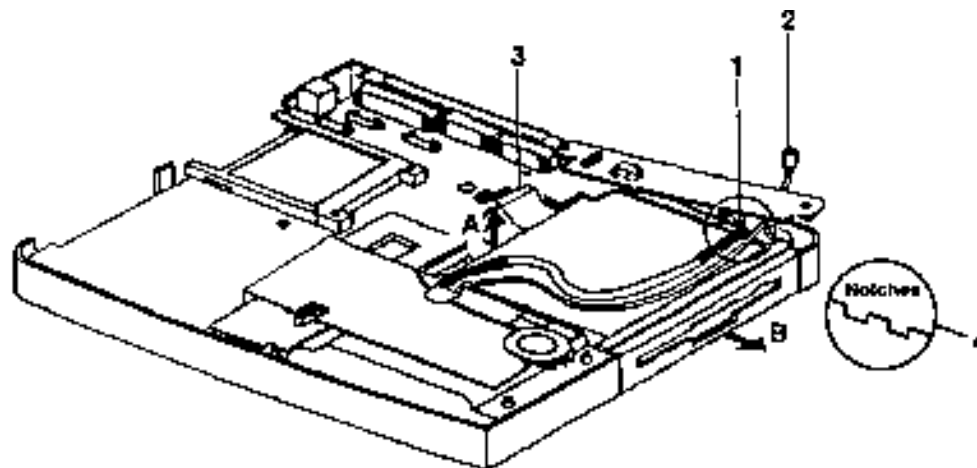

FIGURE 7-9. FLOPPY DISK DRIVE DISASSEMBLY/REASSEMBLY
2. UNPLUG THE AUDIO CABLE (FIGURE 7-9 #1) AND MICROPHONE CABLE (FIGURE 7-9 #2).
4. UNPLUG THE FLOPPY DISK DRIVE DATA CABLE (FIGURE 7-9 #3).
5. TO REMOVE THE FLOPPY DISK DRIVE, FIRST LIFT UP ITS END (FIGURE 7-9 ARROW A) TO UNLOCK AND THEN SLIDE IT OUT OF ITS COMPARTMENT (FIGURE 7-9 ARROW B).
2. RECONNECT THE DATA CALE (FIGURE 7-9 #3).
3. RECONNECT THE AUDIO CABLE (FIGURE 7-9 #1) AND THE MICROPHONE CABLE (FIGURE 7-9 #2). FIT THE CABLES TO THE CORRESPONDING NOTCHES (FIGURE 7-9 #4).